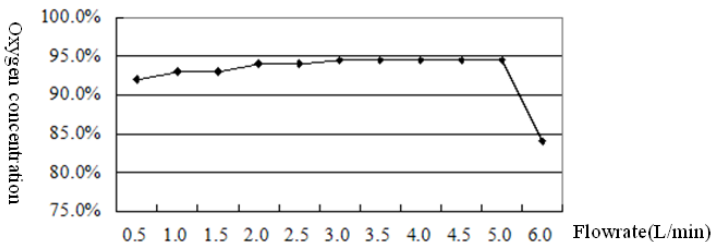

Figure 2
- 10) When the outlet nominal pressure is 0, the function diagram for oxygen concentration and flowrate is shown as Figure 2: